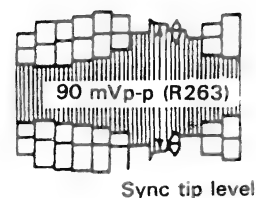

Figure 2-7.
6. Adjust R263 (record FM) so that the sync tip is 90 mVp-p. (Fig. 2-7)